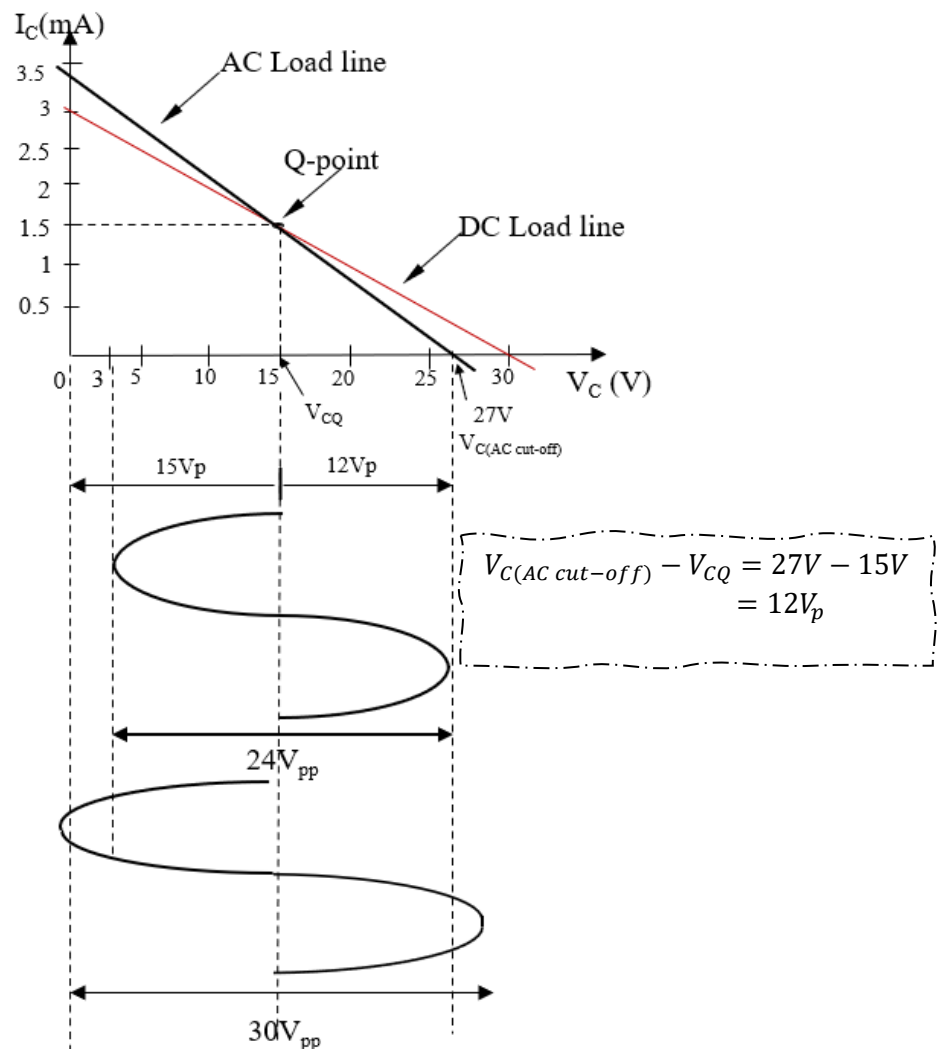

Figure 3.24: Max Input Signal (*Undistorted Output Signal Amplitude*)
- Referring to the value of maximum output voltage without distortion ($V_{o(\max)}$) in Figure 3.24, determine the value of the maximum input voltage without distortion ($V_{i(\max)}$) for the amplifier if the voltage gain of the A_v circuit is 100.